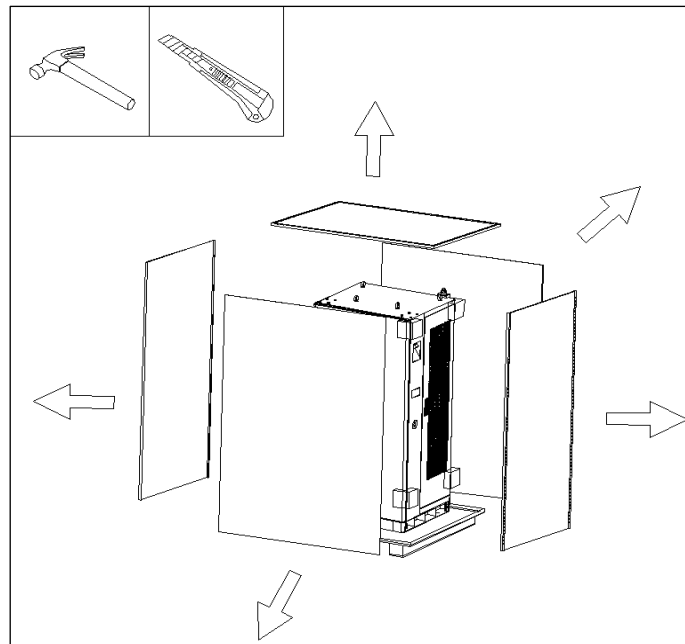

Figure 3.4.1-B
- Use a wrench to remove the four M12 bolts around the base, as shown in **Figure 3.4.1-C**.